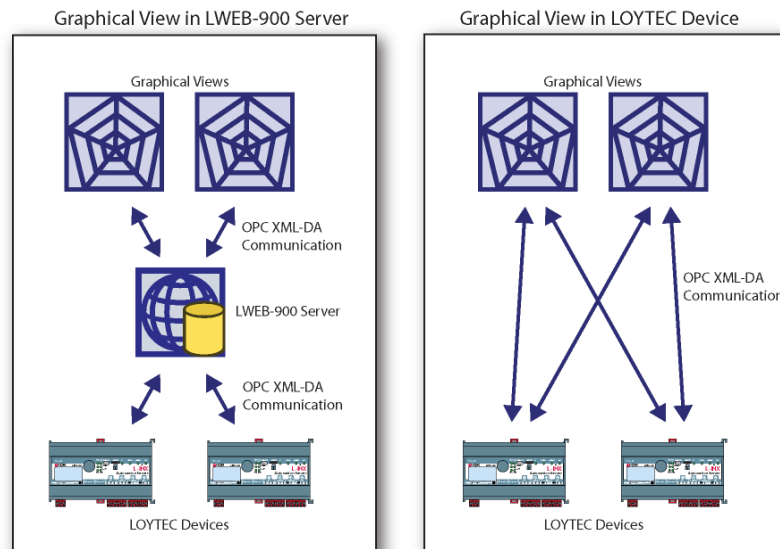

Figure 102: Comparison of Graphical View Types
- Graphical view in LWEB-900 Server: Graphical views of this type can be located in any user folder in the navigation view. In order to display real-time data, the graphical view communicates with the LWEB-900 Server using OPC XML-DA. The LWEB-900 Server in turn communicates with LOYTEC devices using OPC XML-DA. This approach has the advantage that it relieves the communication load of the LOYTEC devices. For the LOYTEC devices it makes no difference whether a graphical view is displayed only on one PC or on multiple PCs. The server fetches the data only once from the LOYTEC devices and distributes it to multiple graphical views (see Figure 102).